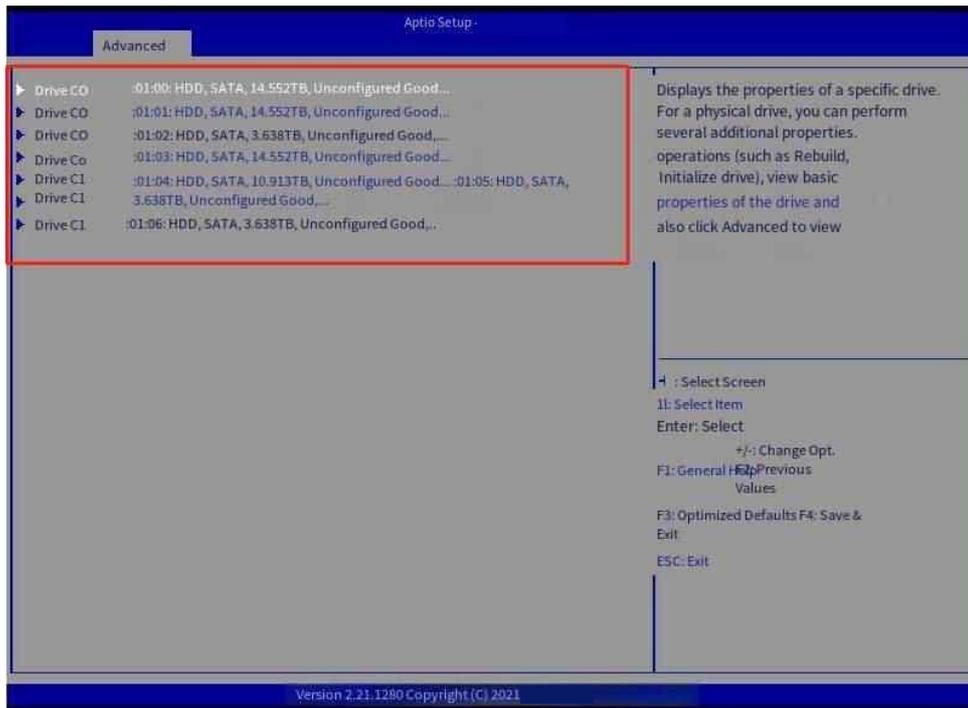

Figure 7-56 Viewing hard drive information
Step 2: Press Enter to go to Drive Management, where you can view hard drive information (Figure 7-56).